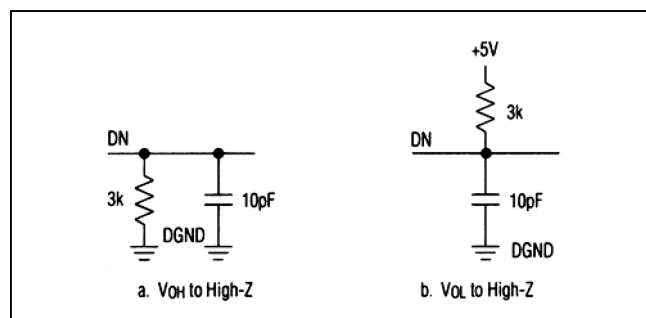

Figure 2. Load Circuits for Bus-Relinquish Time
**Note 5:** t7 is defined as the time required for the data lines to change 0.5V when loaded with the circuit of Figure 2.